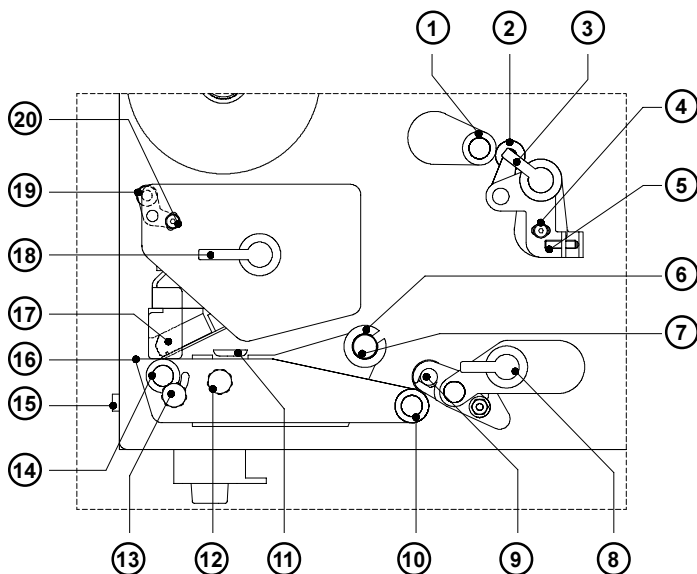

Fig. 4e Detailed view of the print mechanism Hermes 4N/5N
- 11 - Print mechanism (Fig. 4e)